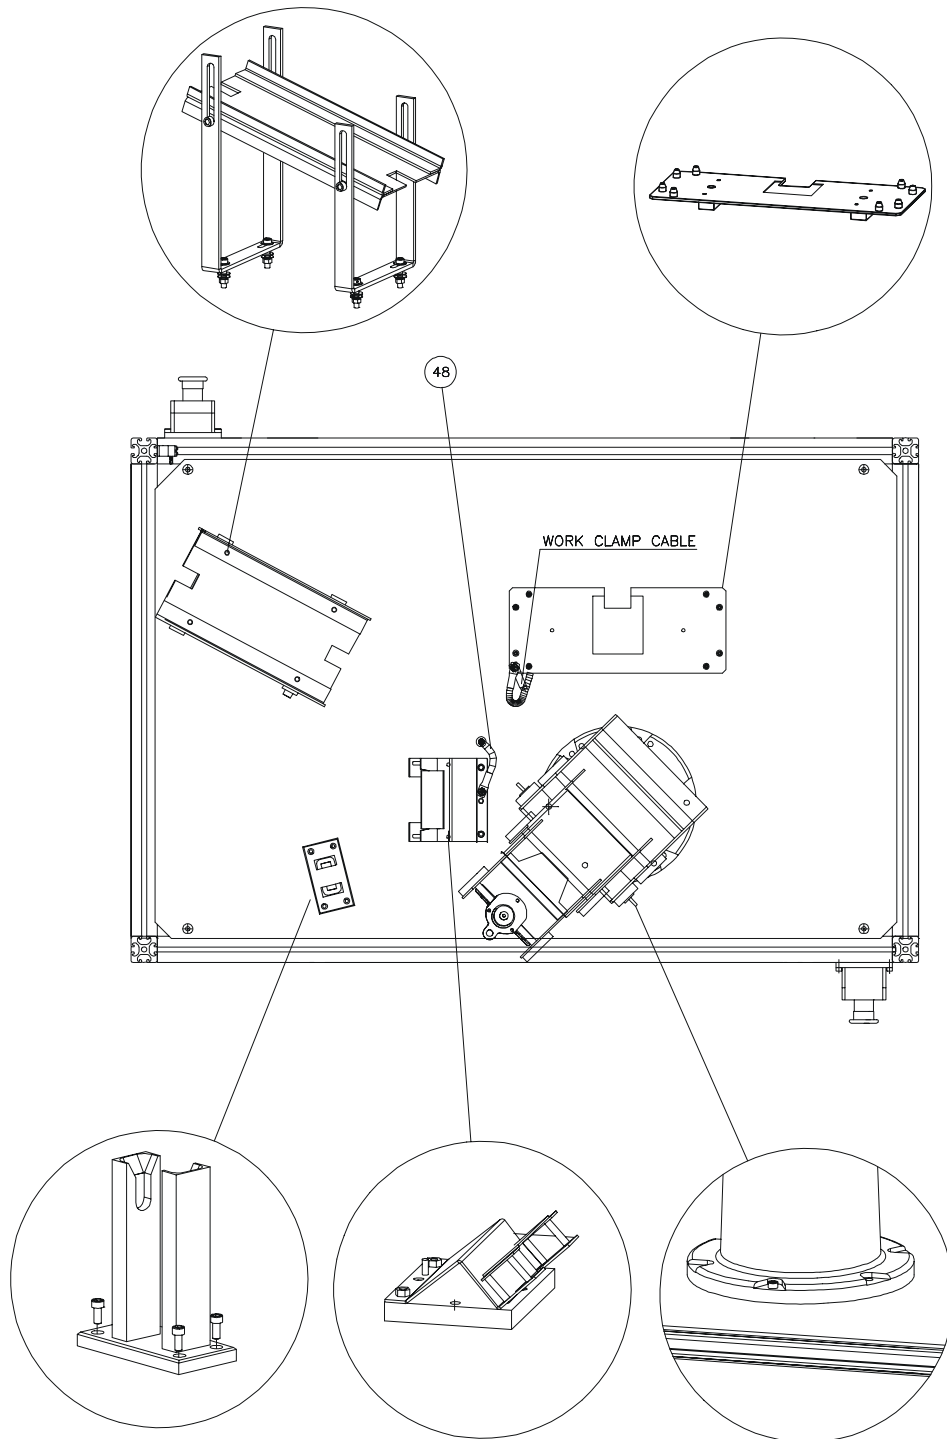

Figure 13: Welding Component Layout – Top View
8. See Figures 13 and 20. Remove the work clamp from the welder's work cable. Connect the work cable wires to the welding jigs (17), as follows: